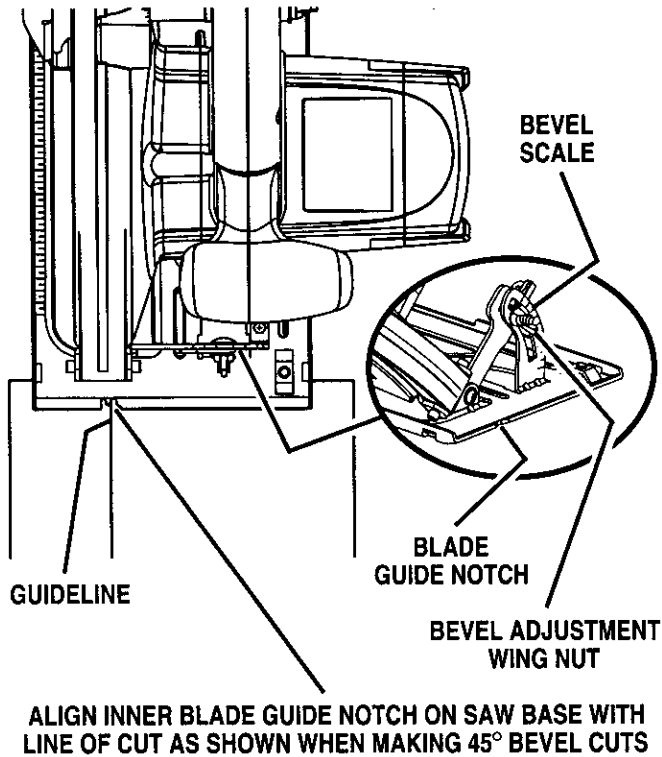

Fig. 19
When making 45° bevel cuts, there is a notch in the saw base to help you line up the blade with the line of cut. See Figure 19.
■ Loosen wing nut. See Figure 19.
■ Raise motor housing end of saw until you reach desired angle setting on bevel scale. See Figure 19.